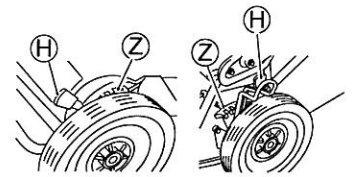

Fig. 6.
2 Lean the mowing height adjustment lever (H) toward the wheel side, separating from the notches (dents) (Z). (See Figs. 6 and 7.)